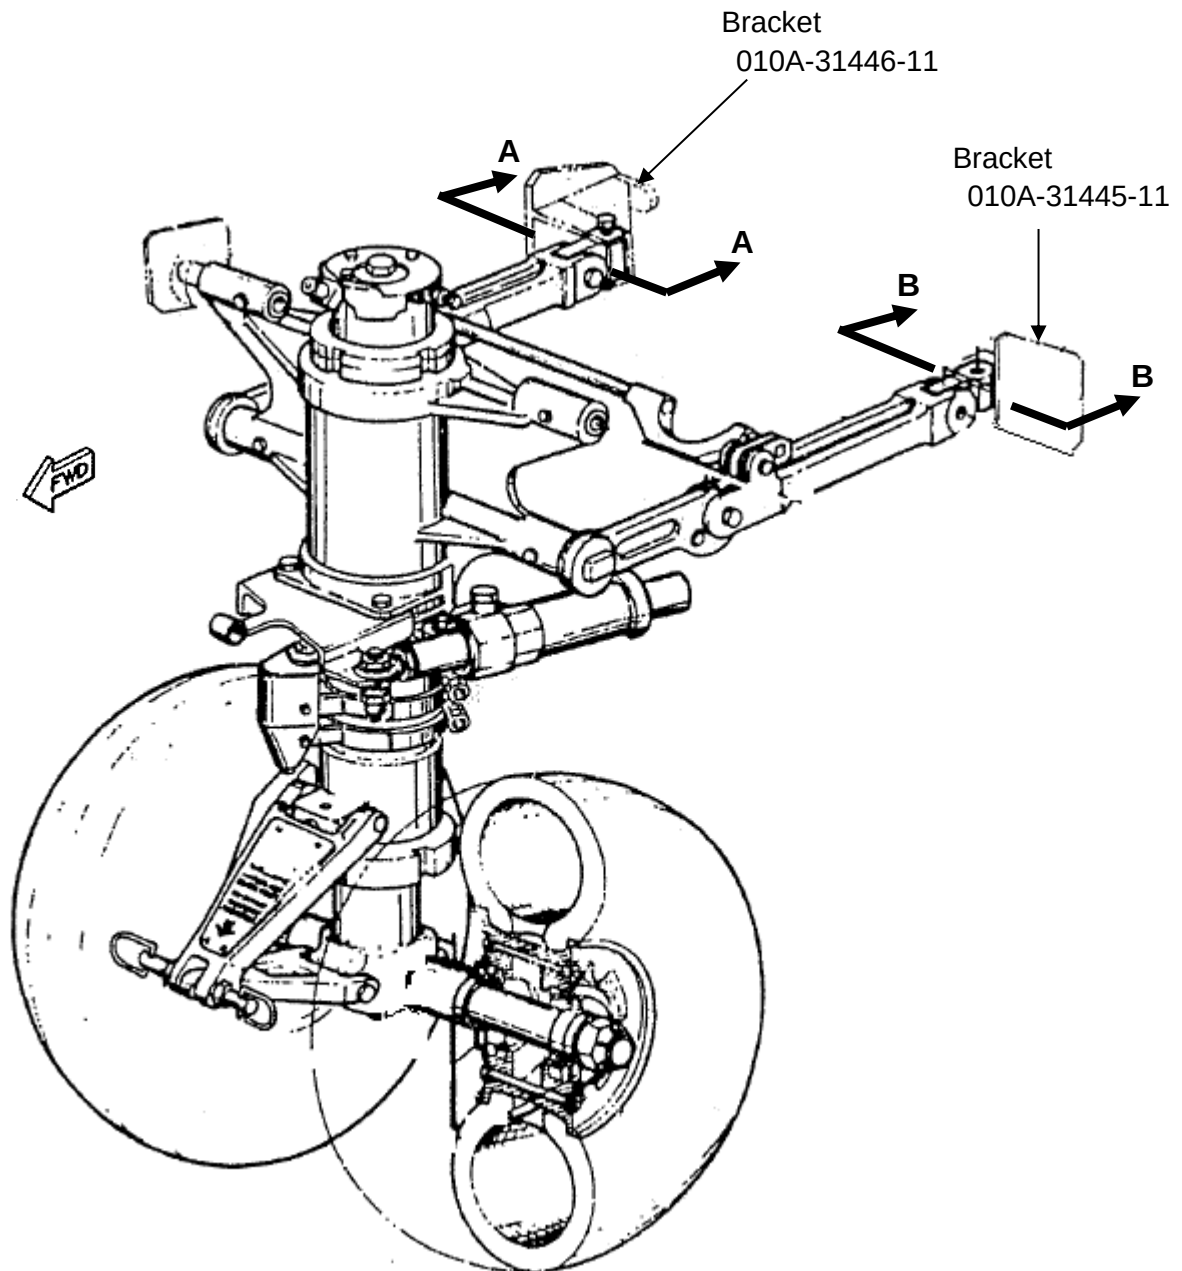

Figure 4: Drag Strut to Fuselage Bracket Location
- (1) Visually inspect NLG Drag Strut to Fuselage Brackets (010A-31445-11 and 010A-31446-11) for crack in the area shown in Figure 4 and 5.